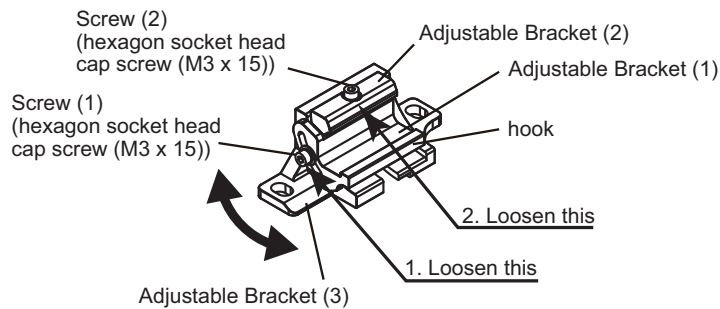

Fig. 1
- Loosen the Screw (1) (hexagon socket head cap screw (M3 x 15)) and change the angle of the Adjustable Bracket (1) according to its mounting direction. (Fig. 1)
- Loosen the Screw (2) (hexagon socket head cap screw (M3 x 15)). (Fig. 1)